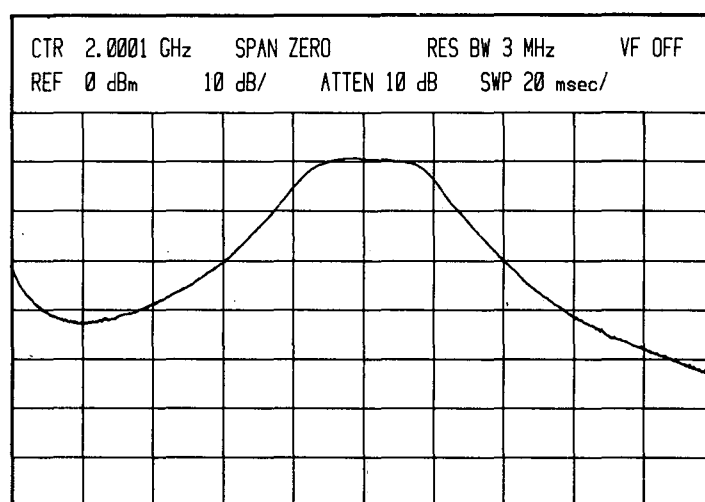

Figure 5-51. YTF Passband Display
- d. Perform corresponding YTF tracking adjustment to center passband (10-dB points) on spectrum analyzer CRT display (Figure 5-51). Ensure that at least 25 percent of passband is on each side of center vertical graticule line.